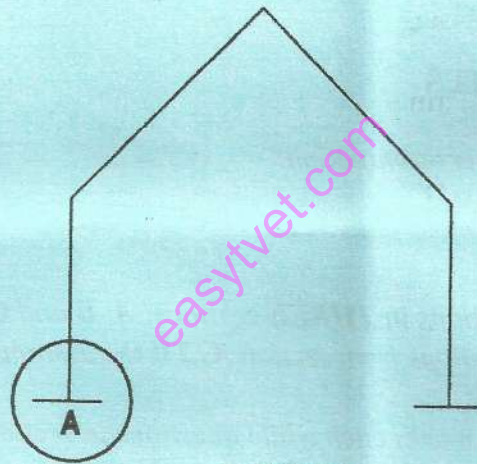

FIGURE 1
- (c) **Figure 1** shows a concrete portal frame. Sketch and label detail A.